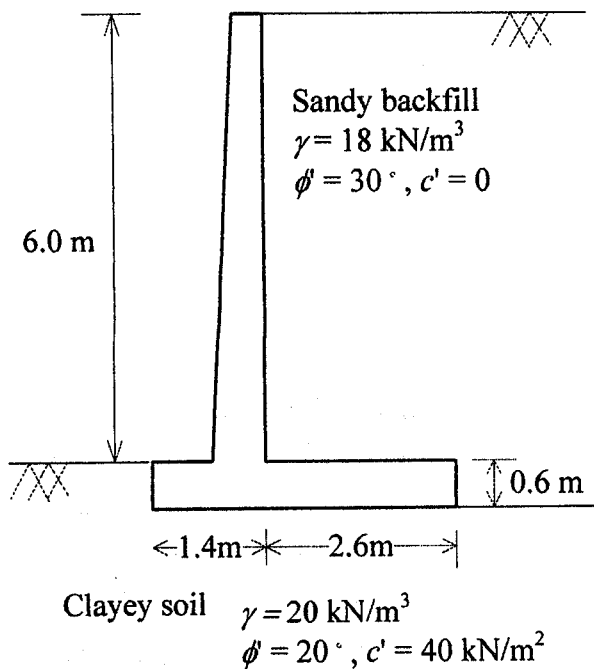

Figure 1. Site profile of the cantilever wall for Question 1.
- (1) (25%) The cross section of a cantilever retaining wall with a height of 6 m and a base length of 4 m is shown in Figure 1. Given that the weight of the wall structure is 155 kN/m and its center of gravity is located at 2 m from the toe of the wall. Answer the following questions for the stability check of the wall.